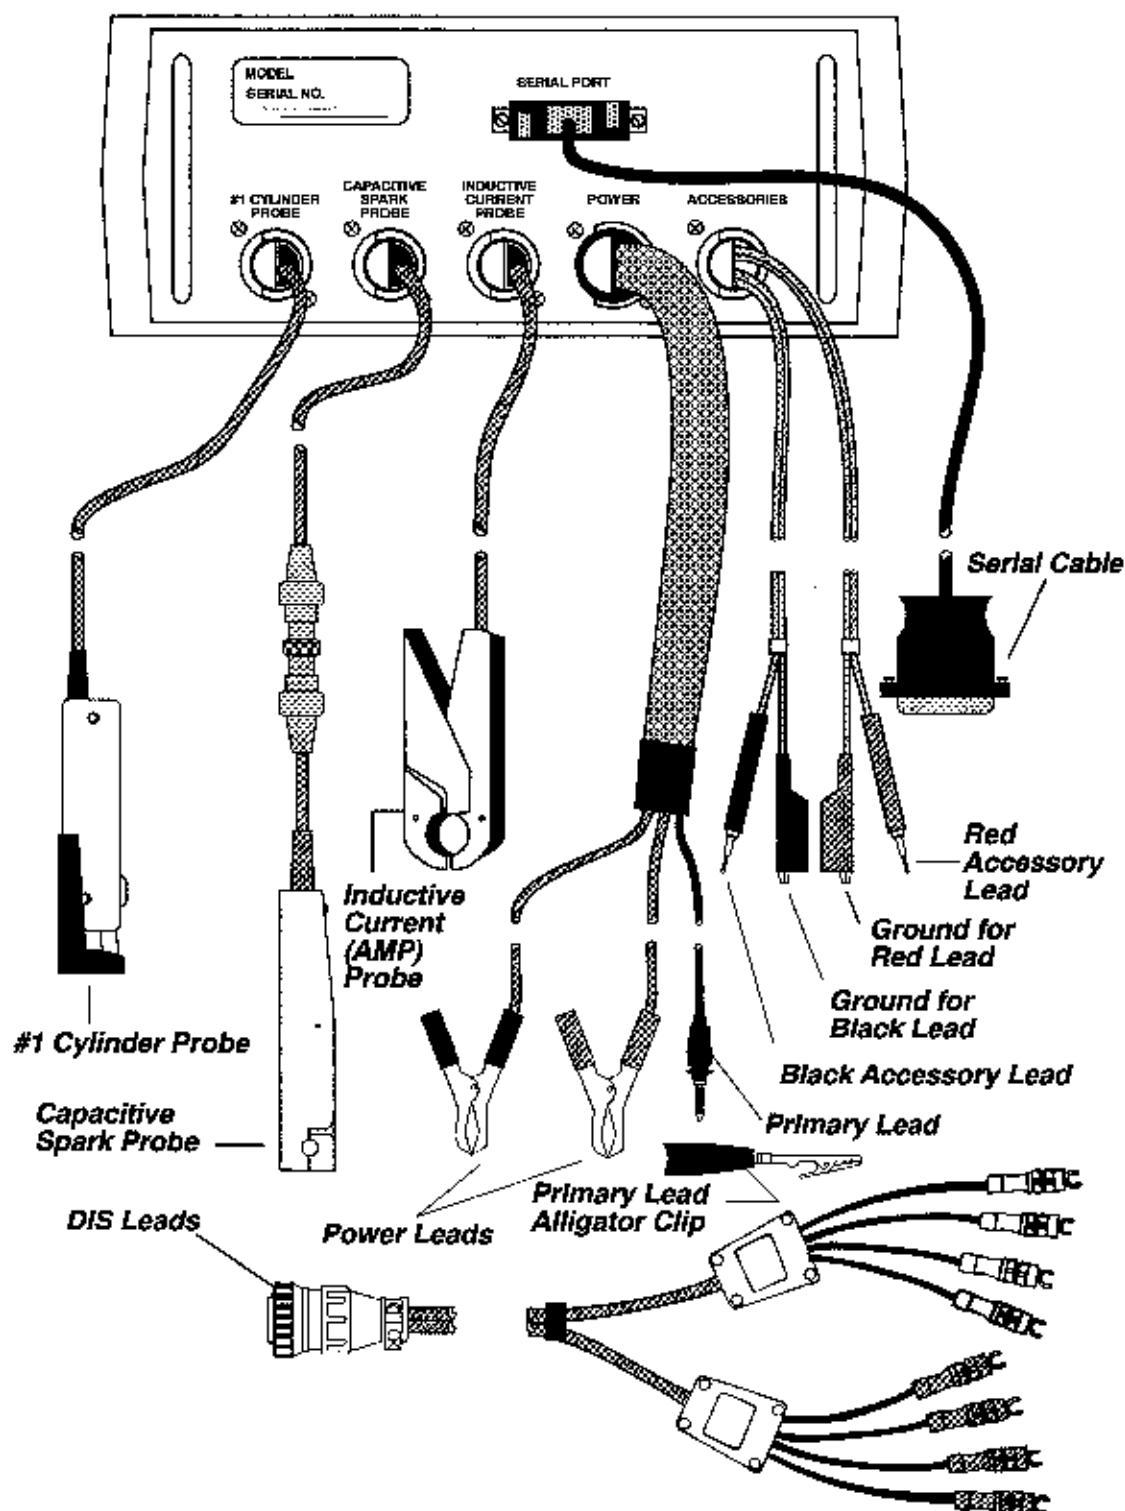

Figure 1-5
- Install the leads on the Engine Analyzer Module, if necessary. Refer to Figure 1-5 for the proper connections.
- Accessory Leads (refer to Figure 1-5) used for waveform/dual trace display.